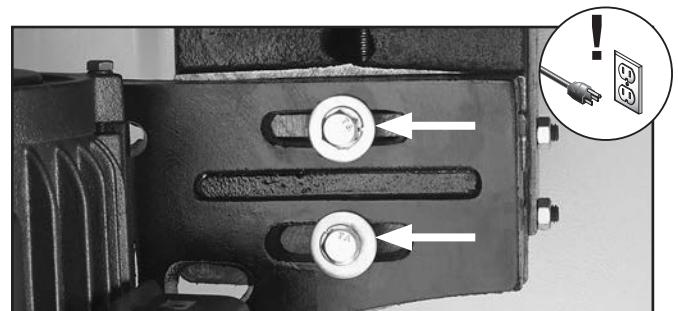

Figure 34. Location of motor mount hex bolts.
2. Remove the rear cover, then loosen the two motor mount bolts shown in **Figure 34** and slide the motor toward the spindle assembly.